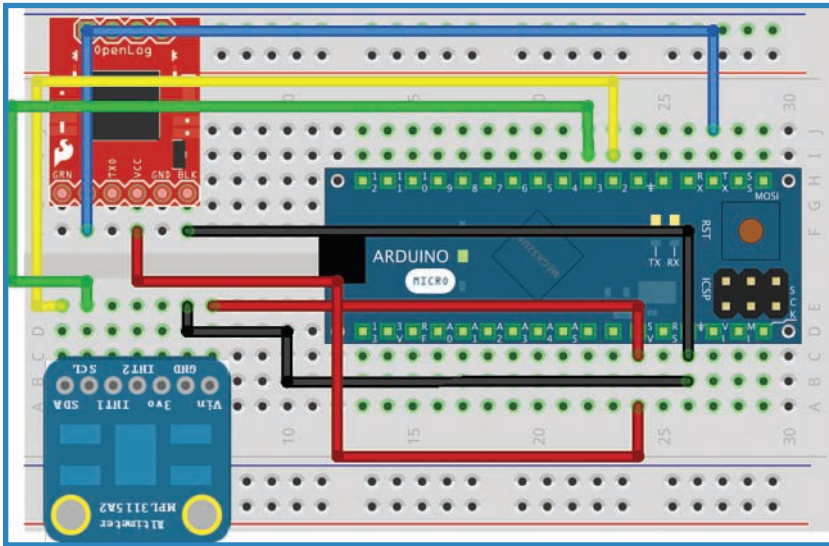

FIGURE 5.16 Next, add the altimeter and its wires.
4. Plug in the altimeter as shown in Figure 5.16. SDA on the OpenLog is connected to pin 2 of the Micro, shown as a yellow wire. SCL (the green wire) on the OpenLog connects to pin 3. Power and ground connect as shown.